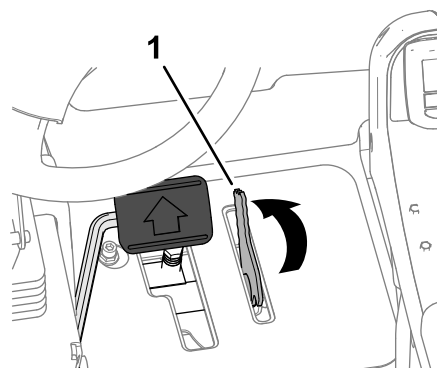

Figure 56
- Use your foot to move the lever for the mow-speed limiter forward, to the Mow position (Figure 56).